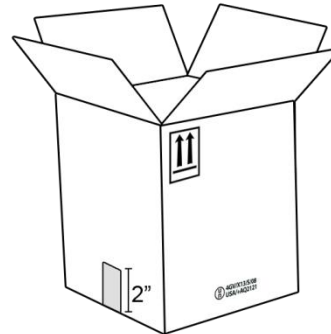

Figure 2
2. Seal center seam with one (1) strip of 48mm wide, 3M #305 clear packing tape (or equivalent). Extend tape beyond each edge by at least 2". (See Figure 2)